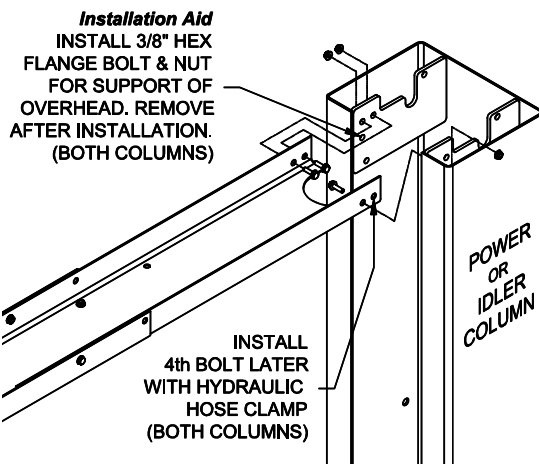

Fig 3 – Overhead Assembly
- 11) Assemble the (3) part overhead with (12) 3/8-16 x 3/4" lg hex flange head bolts and (12) hex flange nuts using **Fig 1** on page 2 as reference for proper width. Before raising overhead into position install 4 each (2 per column) hex flange bolts and nuts in middle hole of column extension (*see Fig 3 Installation Aid*) for temporary support of overhead. Lift overhead assembly up into position and install with 6 each (3 per column) 3/8-16 x 3/4" lg hex flange bolts and hex flange nuts per side as shown in **Fig 3**.